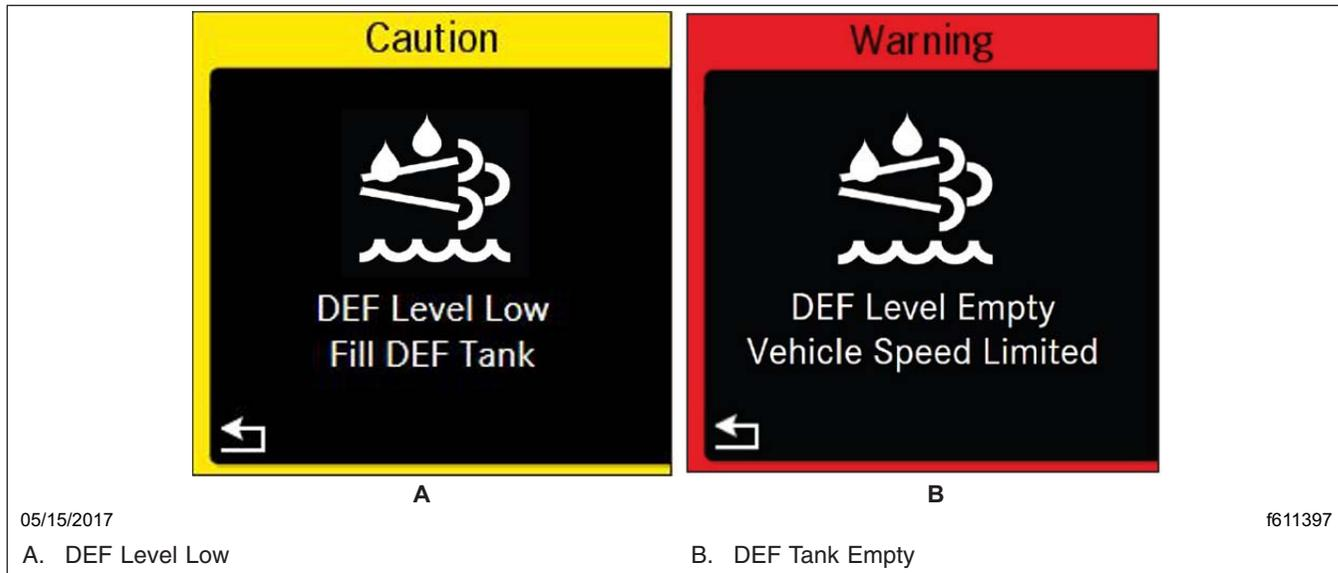

Fig. 14.8, DEF Level Messages
When the DEF level is low, the DEF warning lamp illuminates solid amber, and the driver display screen presents an alert. See Fig. 14.8. Refill the DEF tank in order to cancel the warning sequence.
- The driver display screen presents the warning, "DEF Tank Empty." See Fig. 14.8.